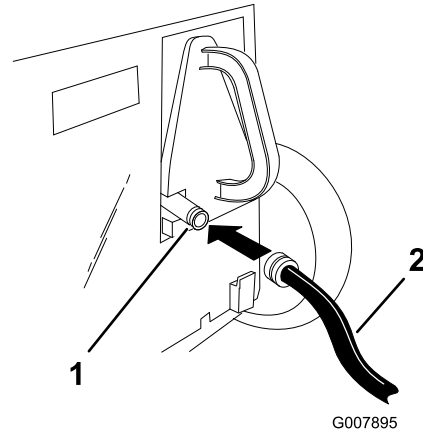

Figure 21
3. Lift the rear door and attach the coupling to the lawn mower washout fitting on the recycling plug (Figure 21).